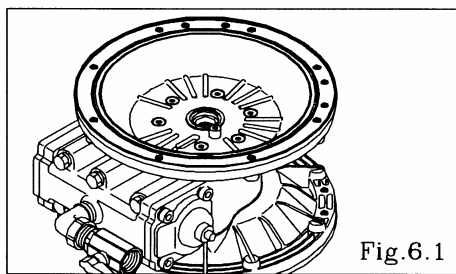

Fig.6.1
- Remove the 12 retainer bolts from the air chamber, and remove the air chamber. [Fig.6.1]